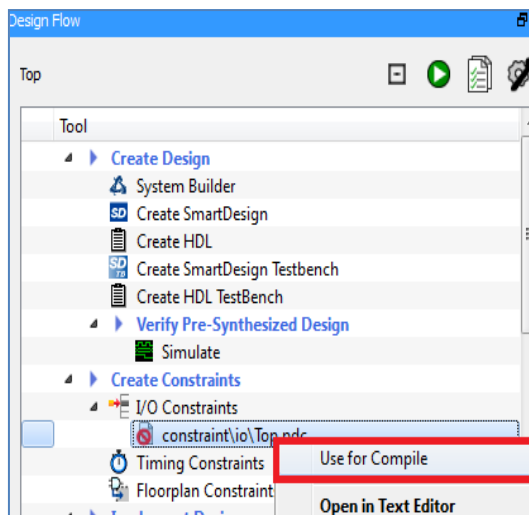

Figure 37 Applying the Imported PDC File for Compile Operation
5. Right-click on **constraint\io\Top.pdc** and select **Use for Compile** to use the file for Compile, as shown in Figure 37.